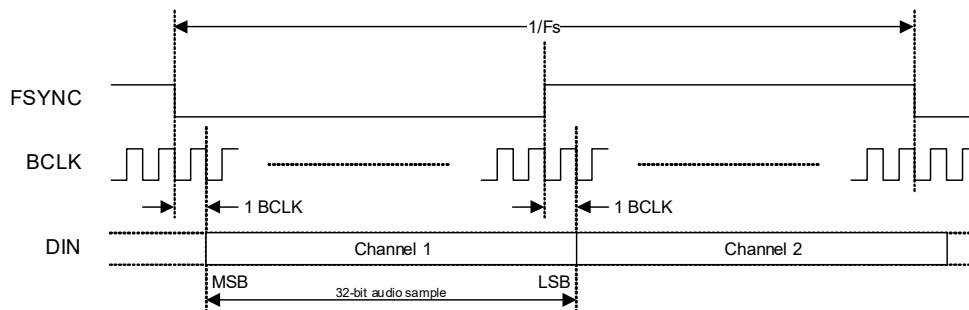
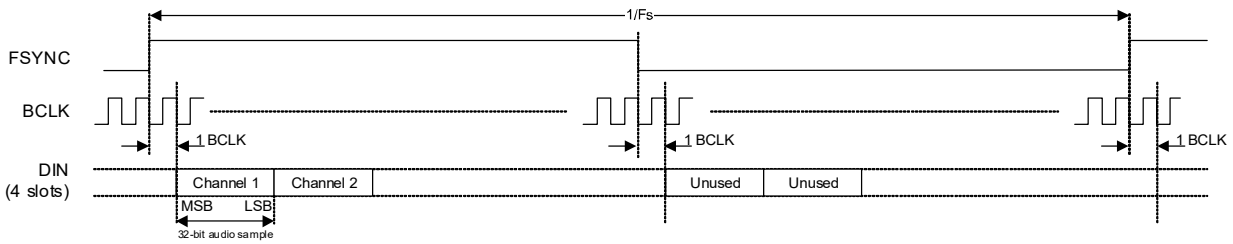

Figure 4-13. I²S Data Format
Figure 4-16. TDM Data Format, 4-Slot Example (FSYNC = Square Wave)
The ASP data format in I²S, Left-Justified, and TDM interface modes as illustrated in Fig. 4-13 through Fig. 4-16. Refer to Table 4-8 for the applicable definition.
- If I²S data format is selected, the ASP supports audio channels 1–2 as shown in Fig. 4-13. The minimum BCLK rate is $64 \times F_s$ (where F_s is the sample rate). In ASP Primary Mode, the minimum BCLK rate of $64 \times F_s$ is not supported for sample rates of 16 kHz or 32 kHz. A higher BCLK frequency can be used, resulting in unused BCLK cycles between the LSB of one sample and the MSB of the next.
An example of the 4-slot TDM format in ASP Primary Mode with the FSYNC signal configured as a square wave is shown in Fig. 4-16. In this example, audio channels 0 and 1 occupy TDM slots 0 and 1 in the high (Logic 1) phase of the FSYNC signal, TDM slot 0 and 1 in the low (Logic 0) phase of the FSYNC signal are unused.